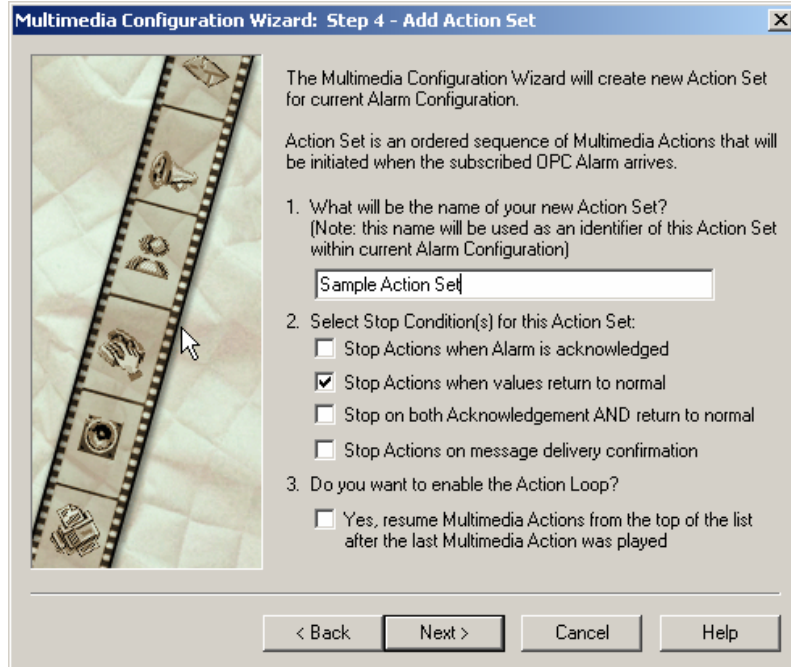

Figure 3.5. Step 4: Configuring an Alarm Action Set
4. You are now ready to configure an alarm action set. An **Action Set** is a collection of tasks to be delegated to various multimedia agents (marquee, sound, e-mail, etc.). Give the action set a name and supply information on when the action set is to stop, as shown in **Figure 3.5**. If you choose to enable the alarm actions loop, then the multimedia actions will return to the first action destination and repeat all alarm actions until the specified stop actions condition has been met.